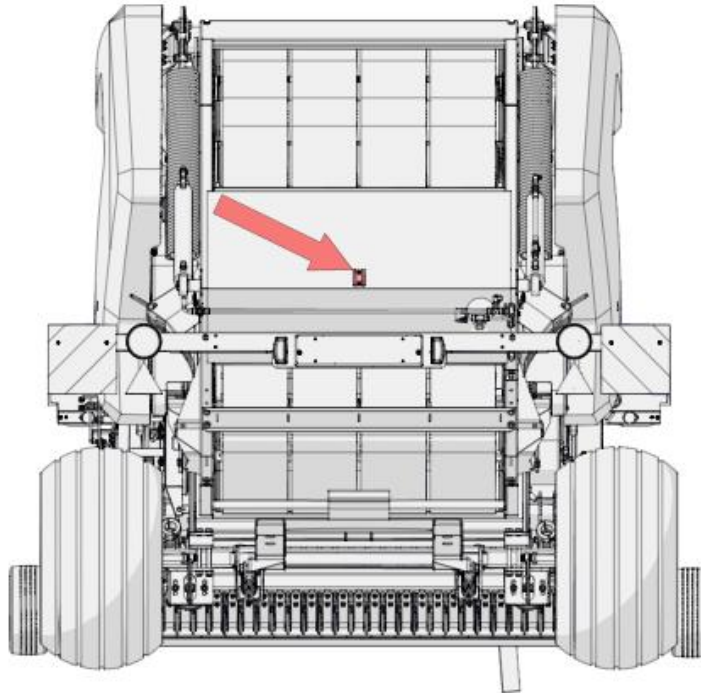

Figure 16. Location of the board indicating slowly moving vehicles,
- Fix the sign indicating slow moving vehicles in the bracket in the rear section of the machine (Fig. 16);